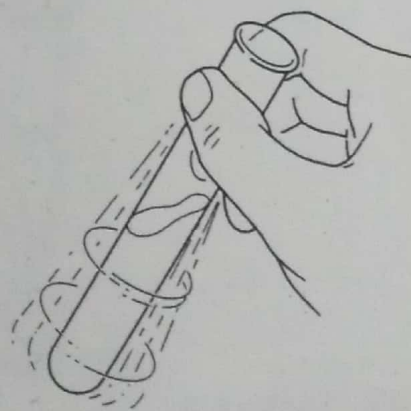

FIGURE 3.12
2. Agitate sideways, so that liquid is not spilled (Fig. 3.12).